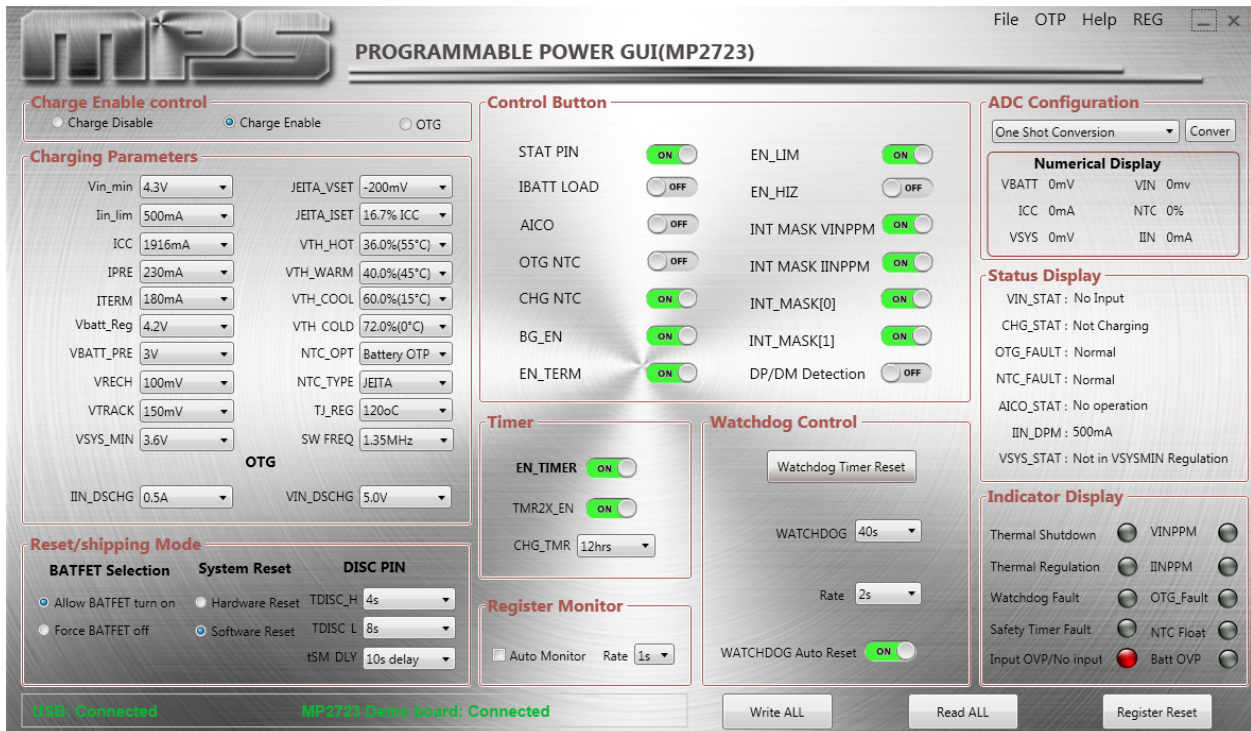

Figure 3: The MP2723 Evaluation Software
1. Turn on the computer, and launch the MP2723 evaluation software. The software’s main window should appear (see Figure 3).
1. Ensure that the all components are connected before running the program, and the status in the lower-left side of the GUI is indicated in green (see Figure 3).